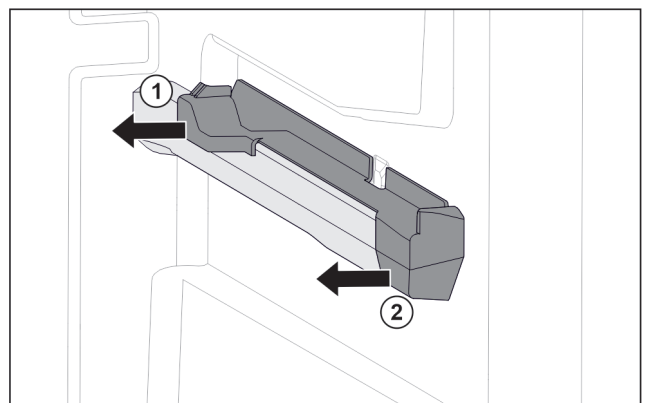

Fig. 30 Attachment on the right moulded rib
- ▶ Pull off attachment at the back sideways. Fig. 30 (1)
- ▶ Pull off attachment at the front sideways. Fig. 30 (2)